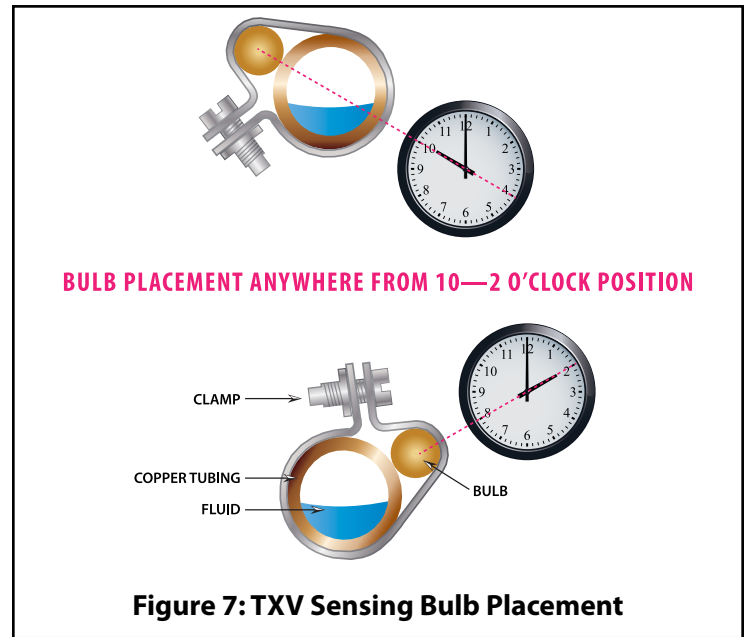

Figure 7: TXV Sensing Bulb Placement
2. The bulb should be installed on the upper portion of a horizontal section of the suction line between 10:00 o'clock and 2:00 o'clock as shown in Figure 7.